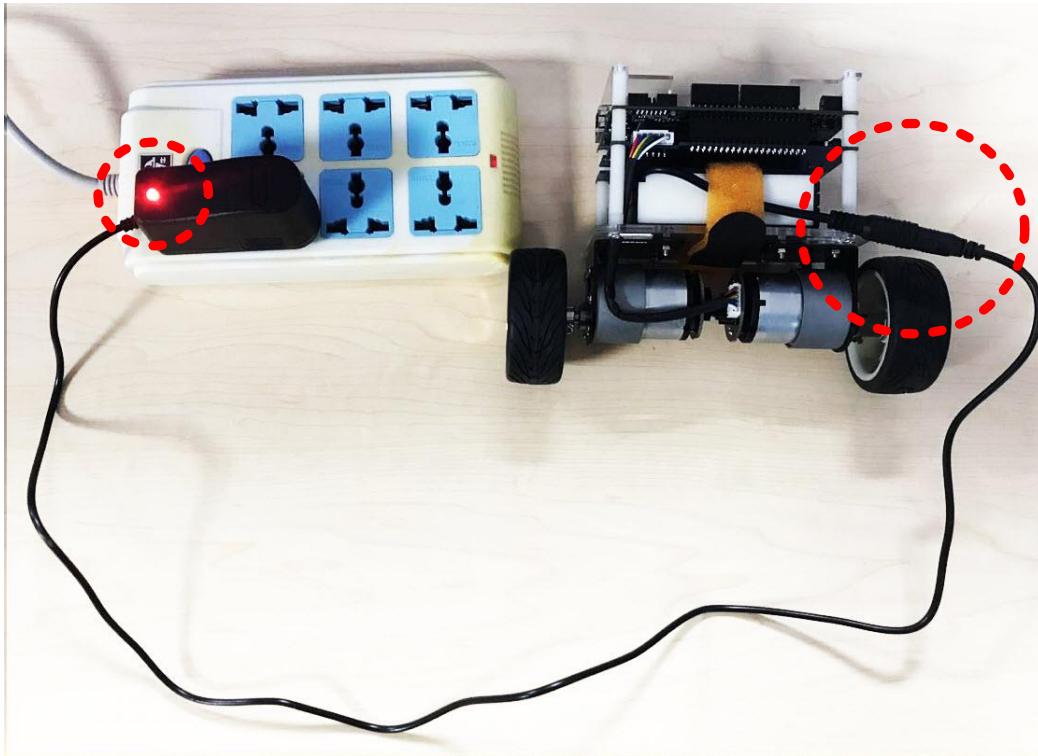

Figure 6-2 Connect charger to battery connector
2. As shown in **Figure 6-2**, plug the charger into the AC 220V or 110V power outlets. Then, connect the charger to the battery case's power jack and charge it. The LED on the charger should be red at this time.